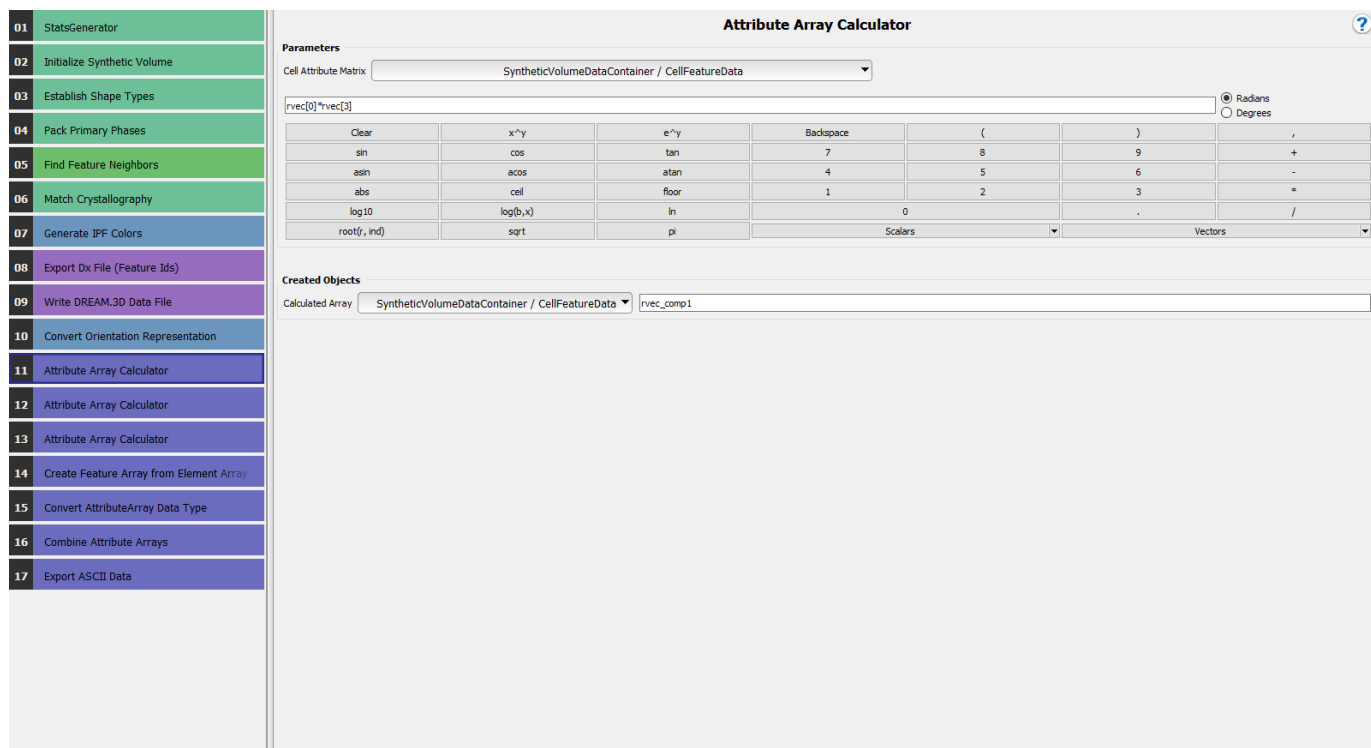

Figure 16: Attribute array calculator
- Copy the **Attribute Array Calculator** filter to the pipeline window. Set **Cell Attribute Matrix** to **SyntheticVolumeContainer / CellFeatureData**. In the textbox type **rvec[0]*rvec[3]**, which means that we are multiplying the 1st component of **rvec** with the 4th component to generate the first component of the ‘actual’ vector. Under **Created Objects** set the option of **Calculated Array** to **SyntheticVolumeContainer / CellFeatureData** and the value as **rvec.comp1**(Fig. 16).